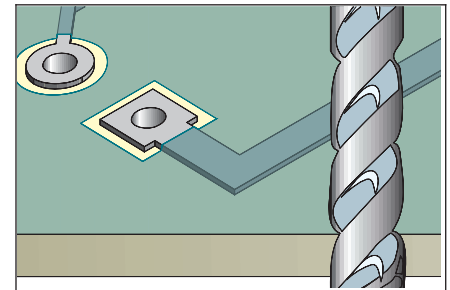

Figure 1 Cut away damaged base material.
2. Cut away the damaged base material using a razor saw or milling cutter. Remove all evidence of the damaged material. No fibers of laminate material should be exposed. File the edge to ensure that the edge is flat. (See Figure 1.)